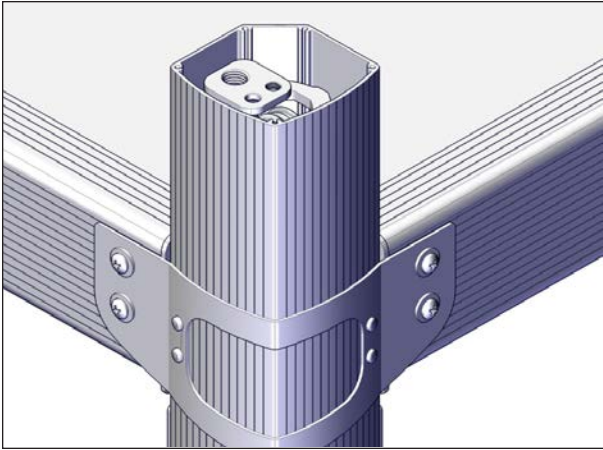

FIGURE 76: INTERNAL JACK
5. Raise the jacks with the key switch. The four internal jacks will raise but the cover should stay in place, see Figure 76.